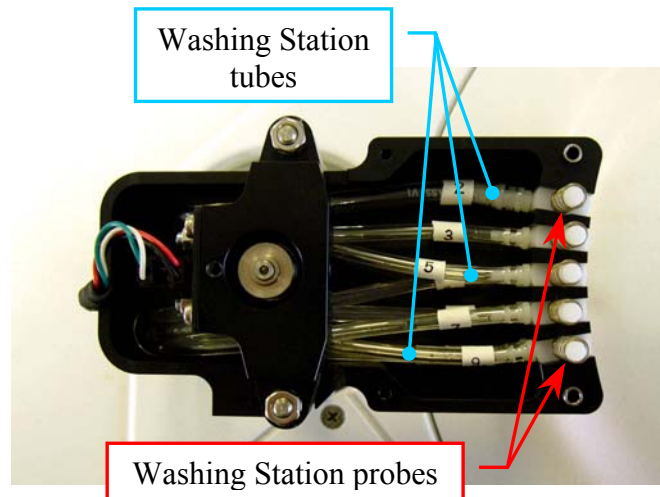

Fig. 120 – Washing Station tubes
4. Remove the five springs from the correspondent manifolds of the probes (**Fig. 120**).